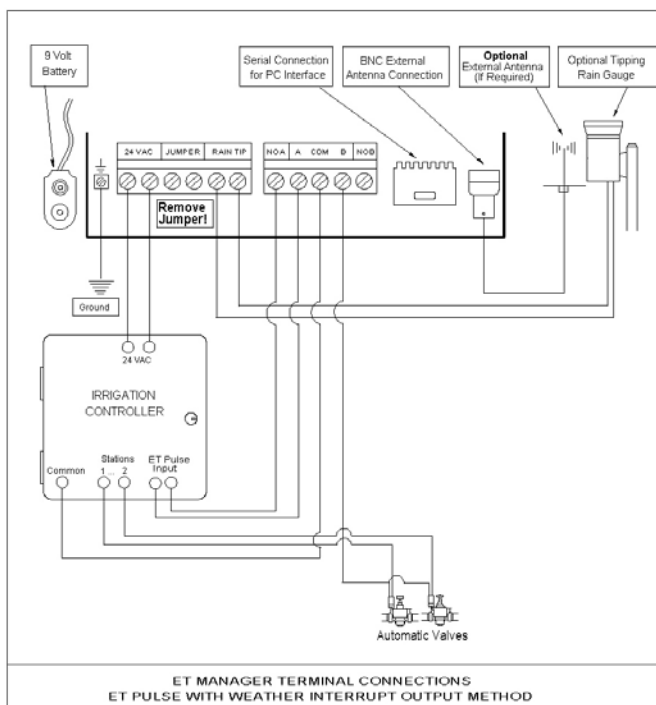

Figure 17. ET Manager Terminal Connections ET Pulse with Weather Interrupt
- Your sprinkler controller, ET Manager, and valves must be installed correctly, see Figure 17.